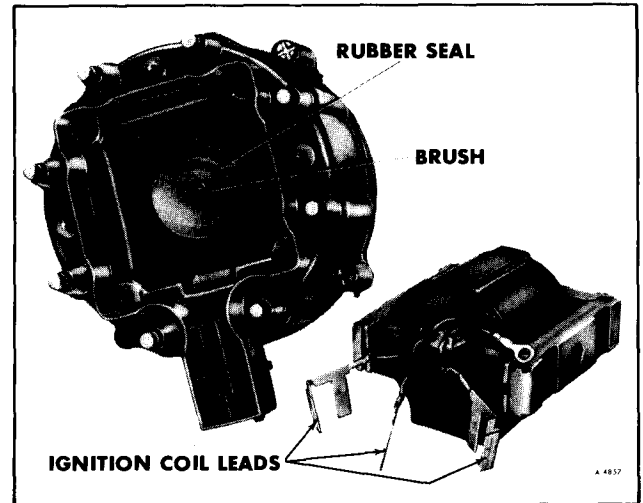

Figure 64—Ignition Coil and Seal (Typical)
6. Check condition of seal and resistor brush (spring and button) (figure 64).